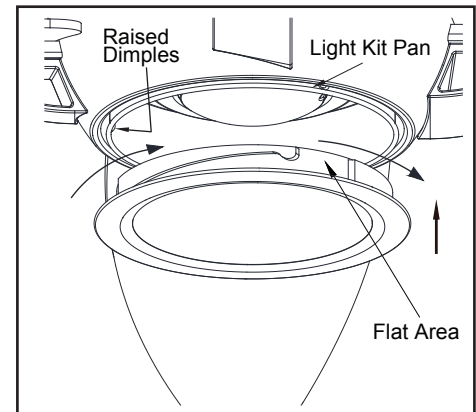

Figure 15
5. Place the shatter-resistant bowl into the light kit pan, aligning the three flat areas on the top of the shatter-resistant bowl with the three raised dimples in the light kit pan. Turn the shatter-resistant bowl clockwise until it stops. (Figure 15)